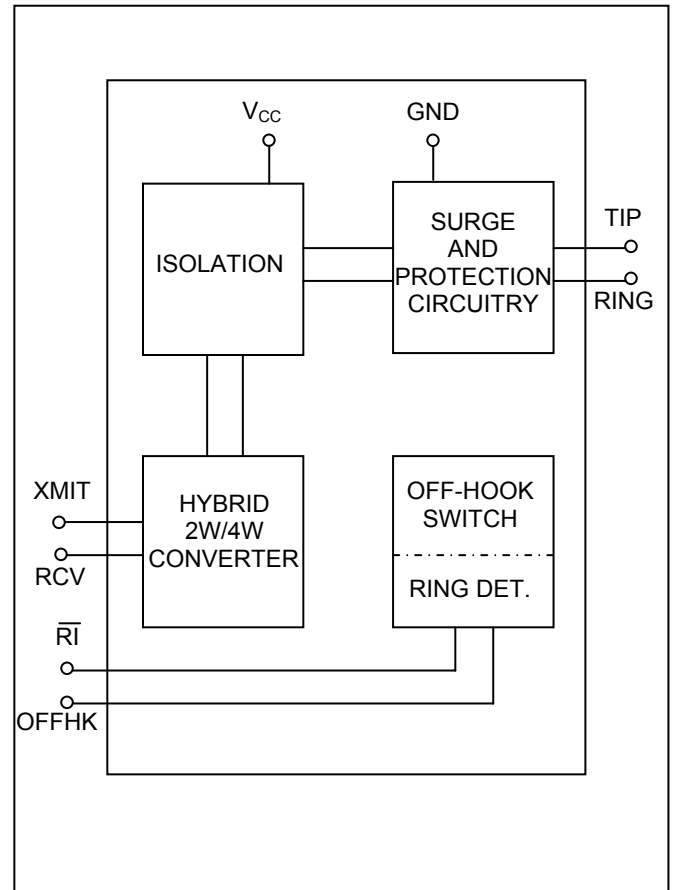

Figure 1. CH1817 DAA Functional Block Diagram.
**Ring Detection.** Referring to the block diagram in Figure 1, incoming ring detection is performed by the CH1817 and the RI pin is set Low during the 2 second (typical) ring period and is restored to High for the 4 seconds (typical) between rings. During incoming ring signal activity, the  $\overline{RI}$  output is pulsed at the same frequency as the ringing signal, typically 20Hz. Figure 2 contains additional external circuitry which may be used to provide an envelope indication of the ring signal. The internal ring detection circuit is designed to deter false indications due to pulse dialing or noise on the line.